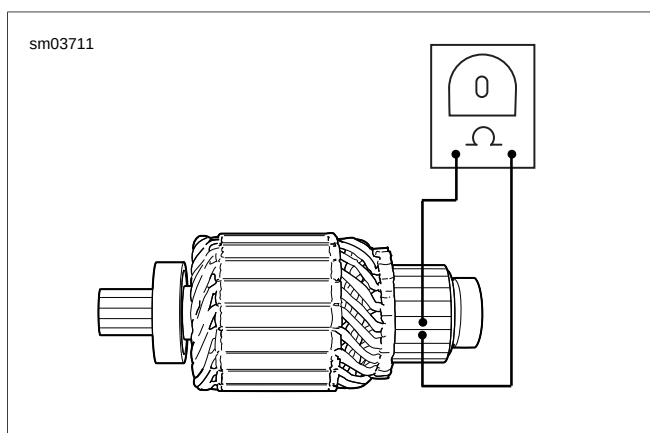

Figure 1-14. Armature Open Test
6. See Figure 1-14. Check for an OPEN ARMATURE with an ohmmeter or continuity tester.